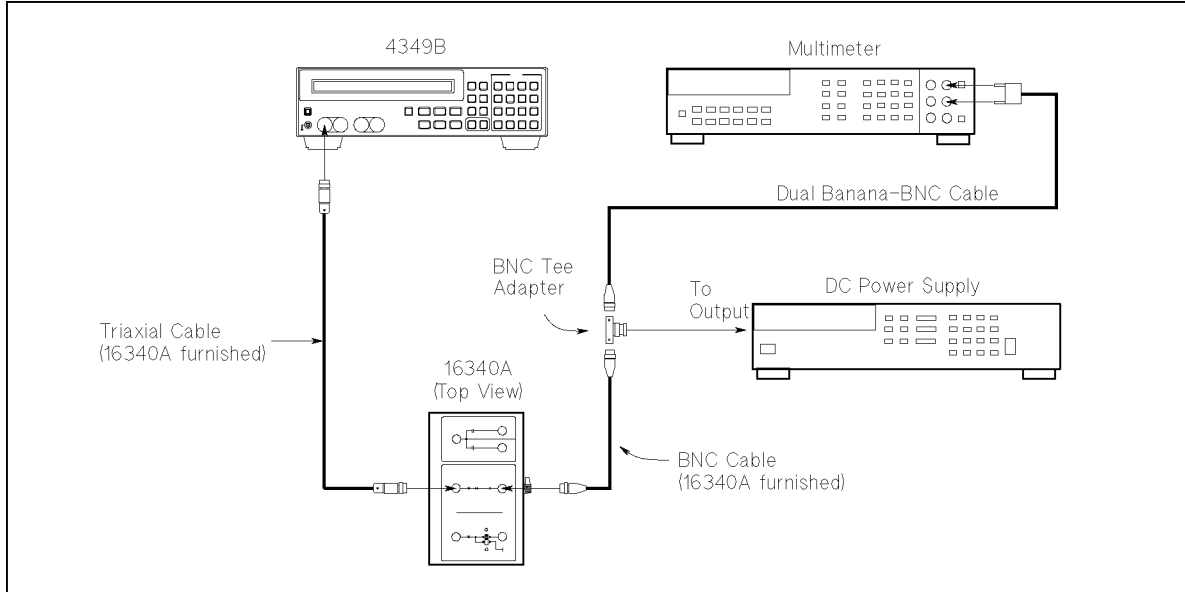
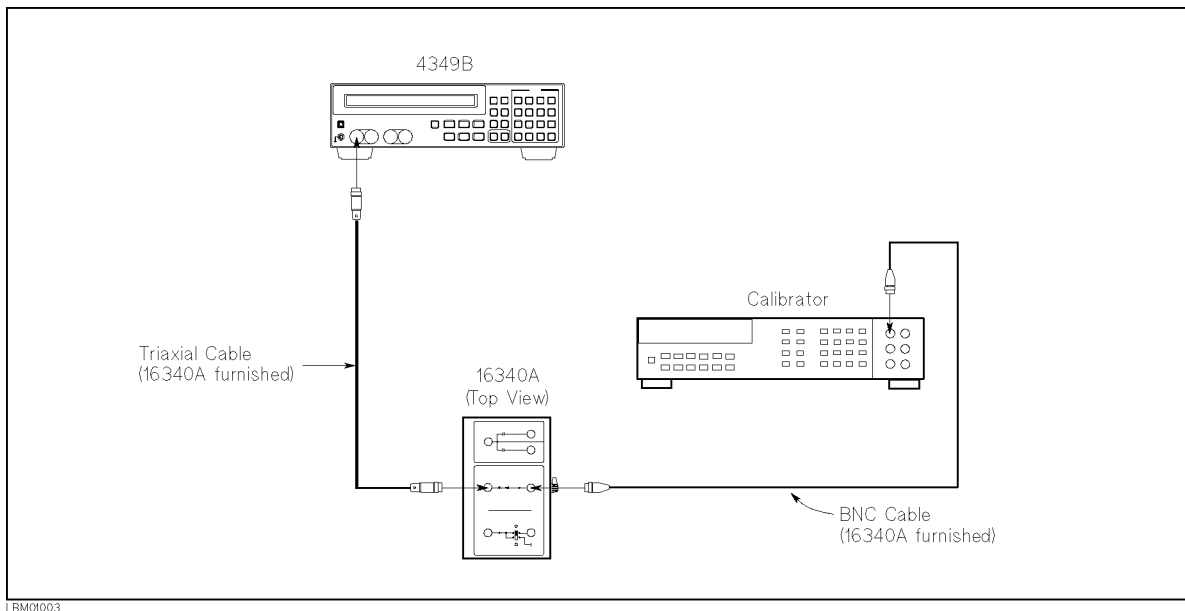

Figure 9-5. Current Measurement Accuracy Test Setup Using DC Power Supply
Figure 9-6. Current Measurement Accuracy Test Setup Using DC Voltage Calibrator
- Set up the equipment as shown in Figure 9-5. If the DC Voltage Calibrator listed in Table 9-2 is available, setup the equipment as shown in Figure 9-6.